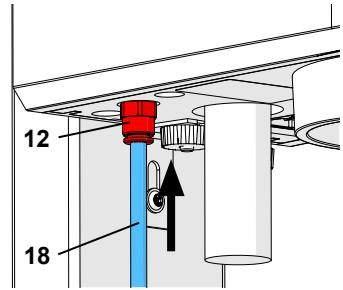

Fig. 5-a
In previous devices, the inlet filter (13) was situated outside the device (Fig. 5-b). In these cases, push the compressed air hose (18) onto the inlet filter (13). There will be a slight resistance to overcome when attaching.